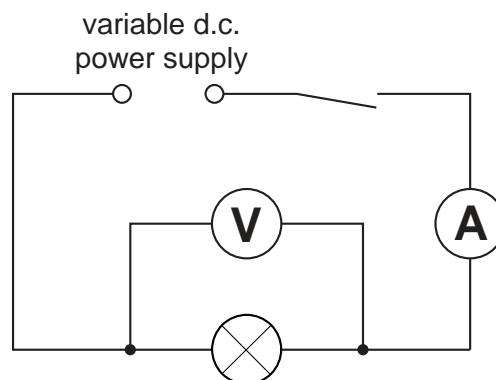

Fig. 3.1
- (ii) The Supervisor should set up the circuit as shown in Fig. 3.1 with the power supply voltage set between 1 V and 2 V. The switch should be open i.e. the circuit is not complete.
- (iii) At the changeover, the Supervisor should ensure that the circuit is set up as shown in Fig. 3.1 with the power supply voltage set between 1 V and 2 V. The Supervisor should check that the lamp is still operational and that any cells used in the circuit have not run flat. The Supervisor should then open the switch.